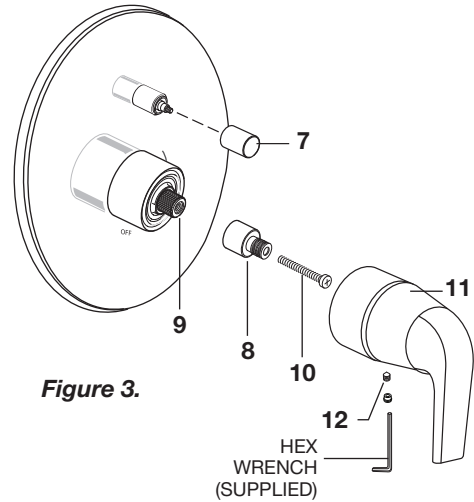

Figure 3.
- **Figure 3.** Thread DIVERTER KNOB (7) onto diverter stem.
- Install HANDLE ADAPTER (8) onto VALVE STEM (9) and secure with SCREW (10).
- Align LEVER HANDLE (11) so lever is facing down and tighten SET SCREW (12) with hex wrench to secure LEVER HANDLE (11).